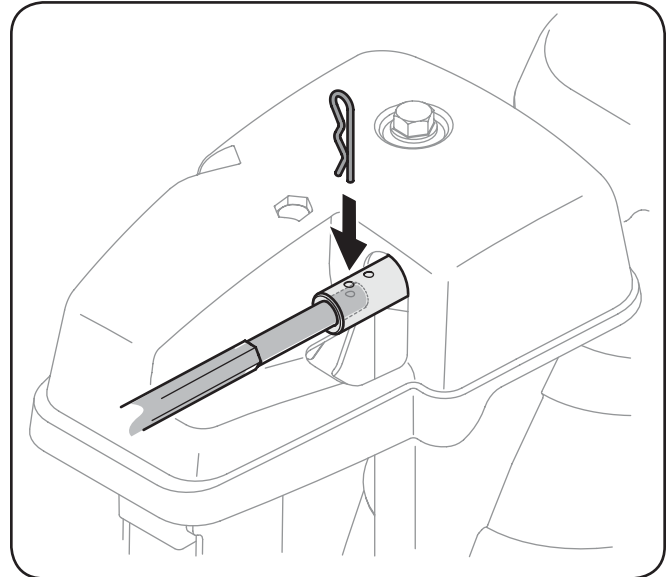

Figure 6-8
2. Pull out the chute control rod until the hole in it lines up with the second hole in the chute rotation assembly. See Fig. 6-8.
3. Reinsert the cotter pin through this hole and the chute control rod. See Fig. 6-8.